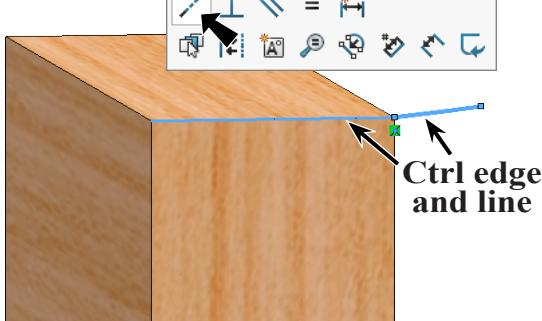
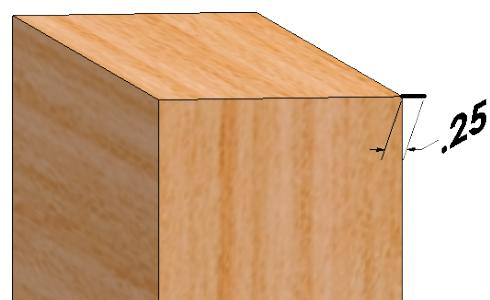

Fig. 3
Fig. 4
Step 9. **Ctrl click the outside top edge of leg body** and line to select both. Release Ctrl key and click **Make Collinear**  on the context toolbar, Fig. 3.
Step 10. Click **Smart Dimension**  (S) on the Sketch toolbar.
Step 11. Dimension line **.25**, Fig. 4.